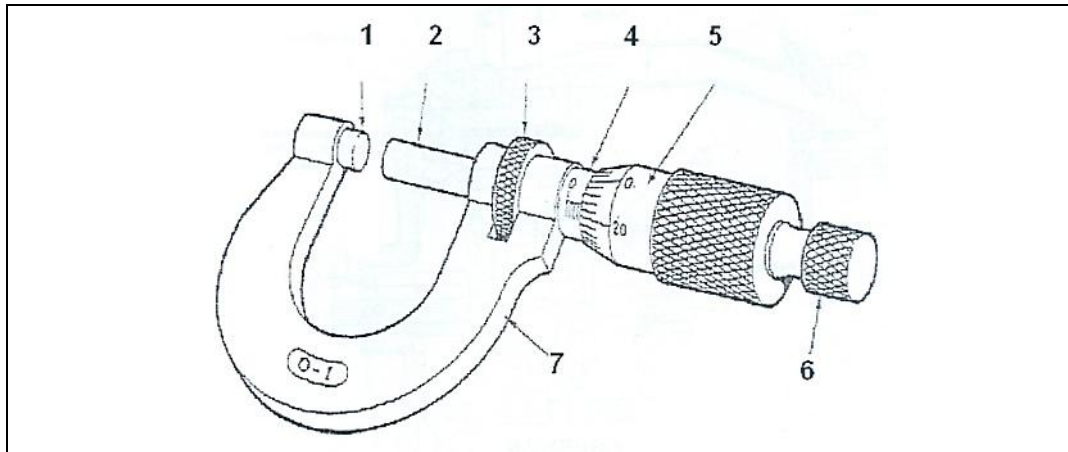

FIGURE 3.1
3.1 FIGURE 3.1 below shows a precision measuring tool.
3.1.1 Identify the precision instrument represented in FIGURE 3.1 above. (1)